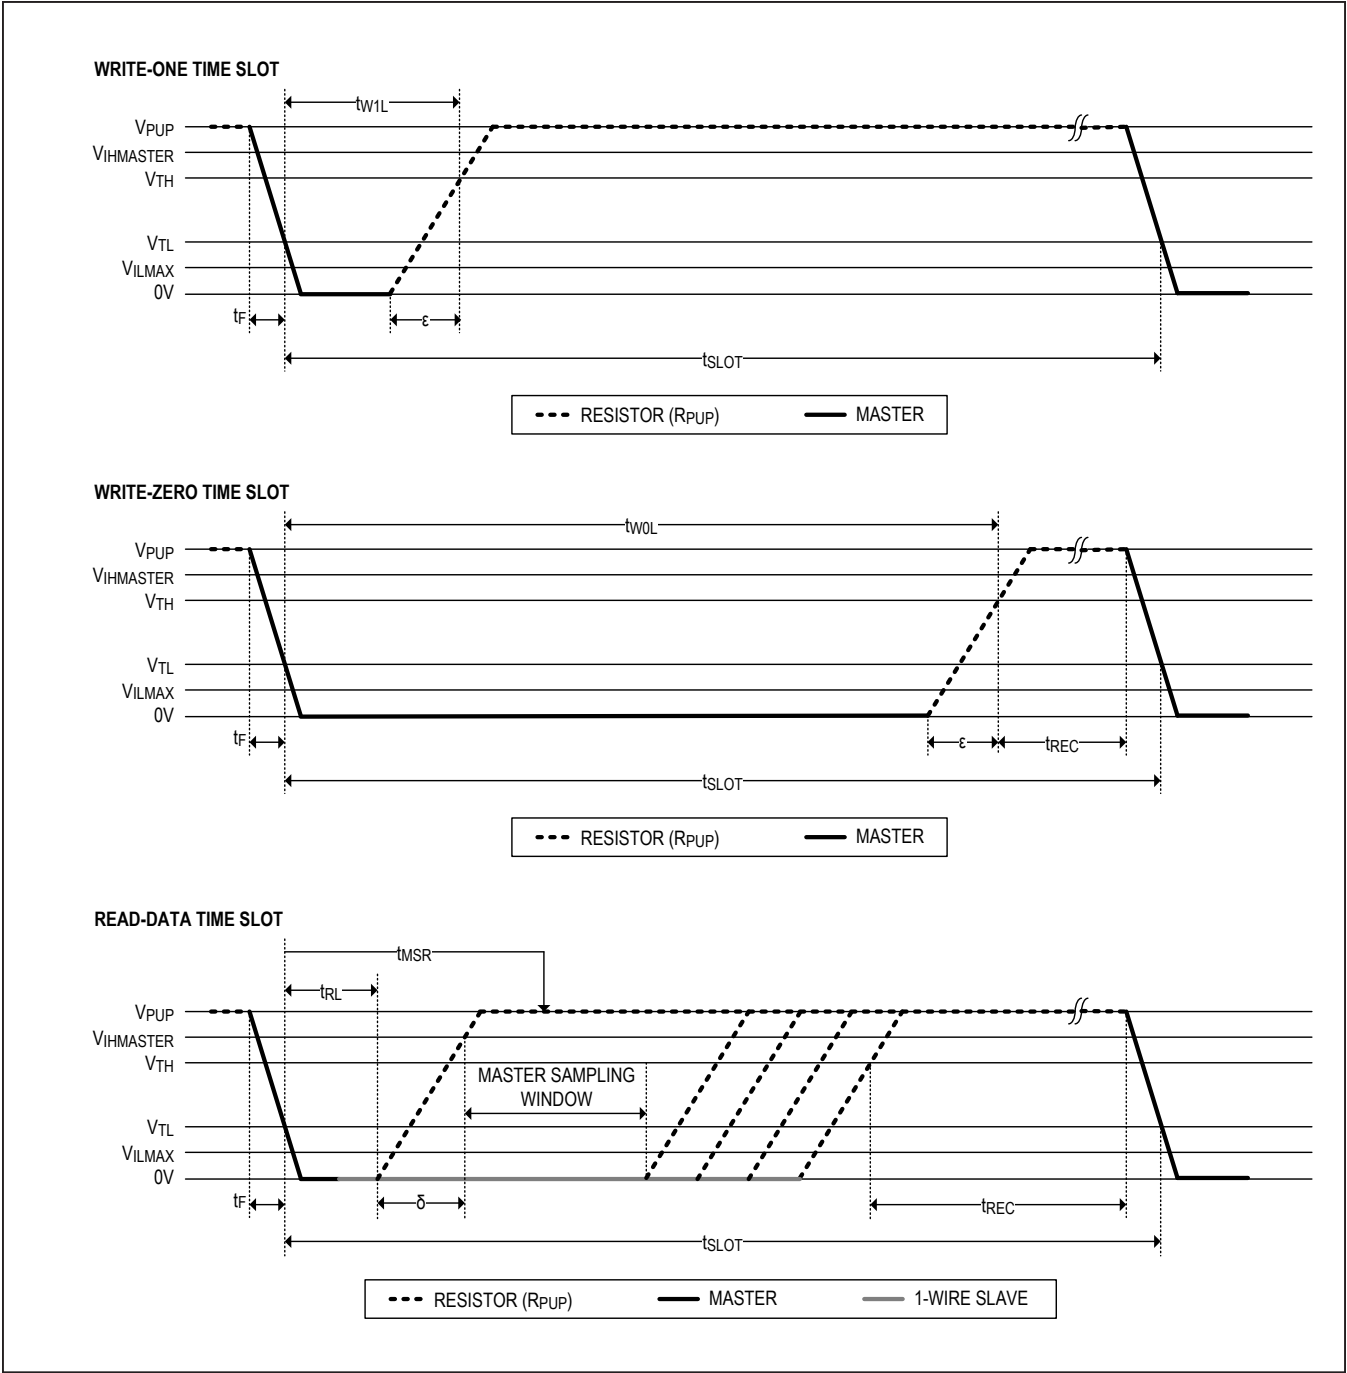

Figure 4. Read/Write Timing Diagrams
- Note 17: ε in Figure 4 represents the time required for the pullup circuitry to pull the voltage on IO up from V_{IL} to V_{TH}.
- Note 18: δ in Figure 4 represents the time required for the pullup circuitry to pull the voltage on IO up from V_{IL} to the input-high threshold of the bus master.
Data communication with the DS28E83 takes place in time slots that carry a single bit each. Write time slots transport data from bus master to slave. Read time slots transfer data from slave to master. Figure 4 illustrates the definitions of the write and read time slots.